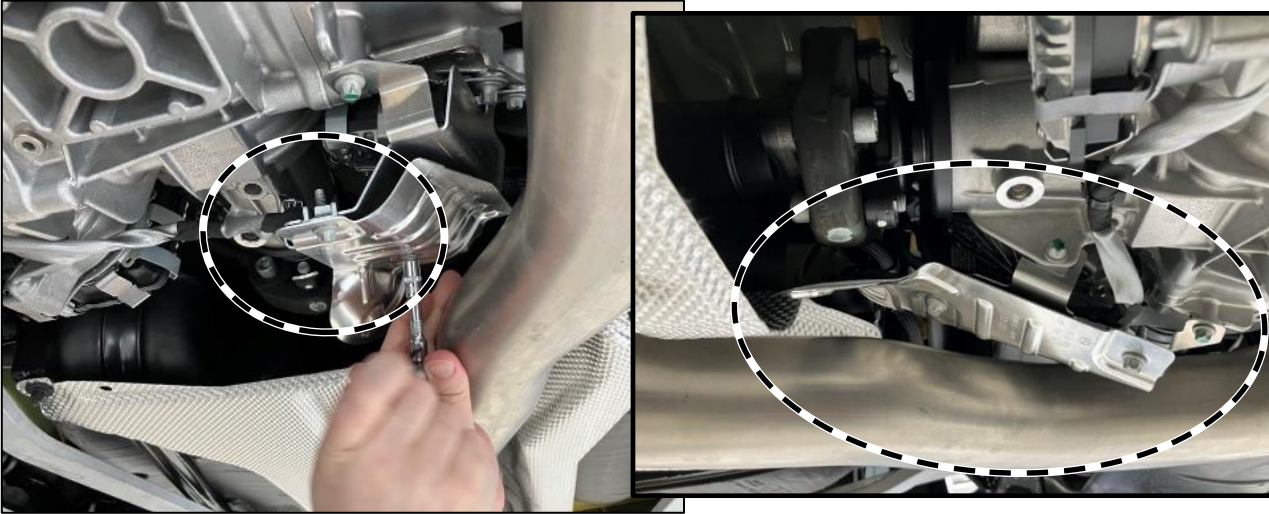

Figure 2
3.2 Next, reattach the 2 electrical wiring harness retaining clamps (**Figure 2, B**).